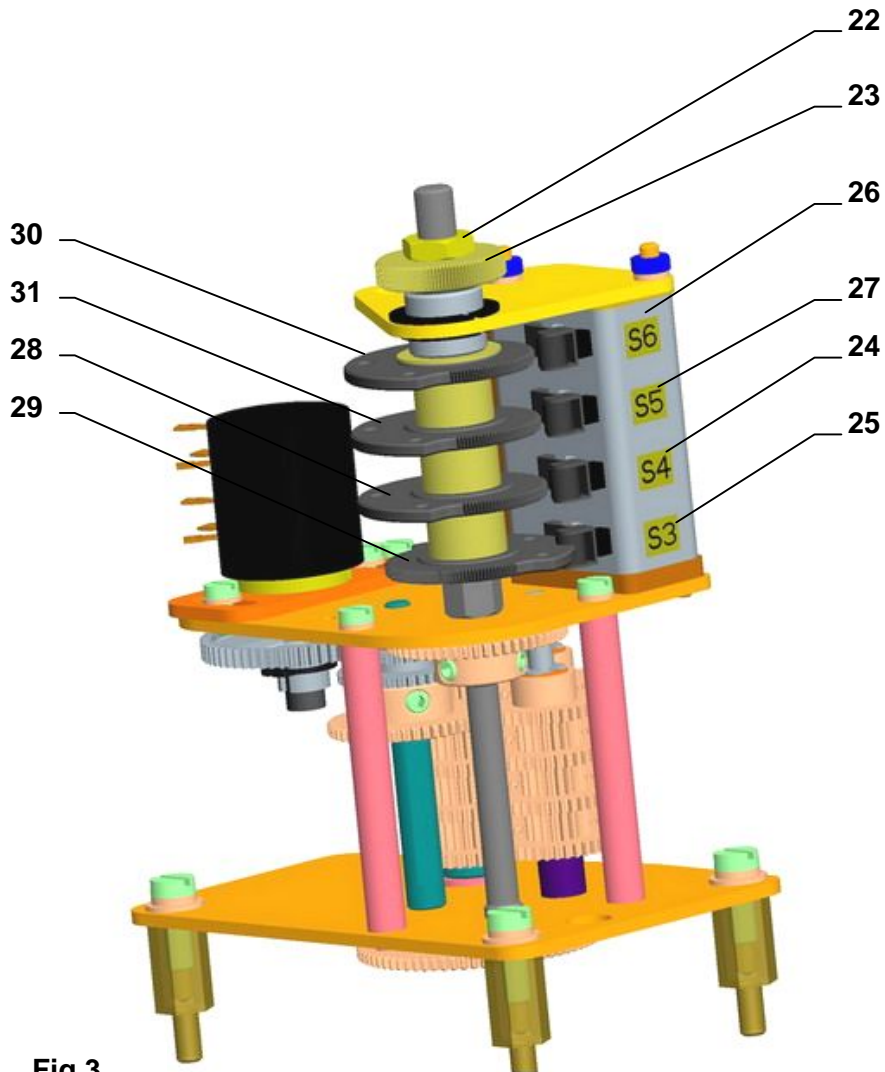

Fig.3
4.2 Adjustment of position-signalling unit (Fig.3)
The EA are in the production plant adjusted to a fixed stroke (according to the specification), given on the nameplate. Failure of the customer to specify the particular operating stroke parameter the selected operating speed are set to the 3rd stroke of the selected stroke line. While setting, adjusting and resetting follow these steps (Fig. 3):